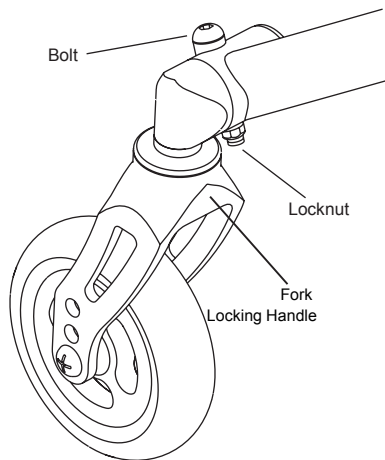

Figure 111
2. Loosen the locknut while keeping the bolt from rotating. **Note:** It is only necessary to loosen (not remove) the locknut to allow the bolt to be easily turned with an Allen Wrench. See Figure 111.